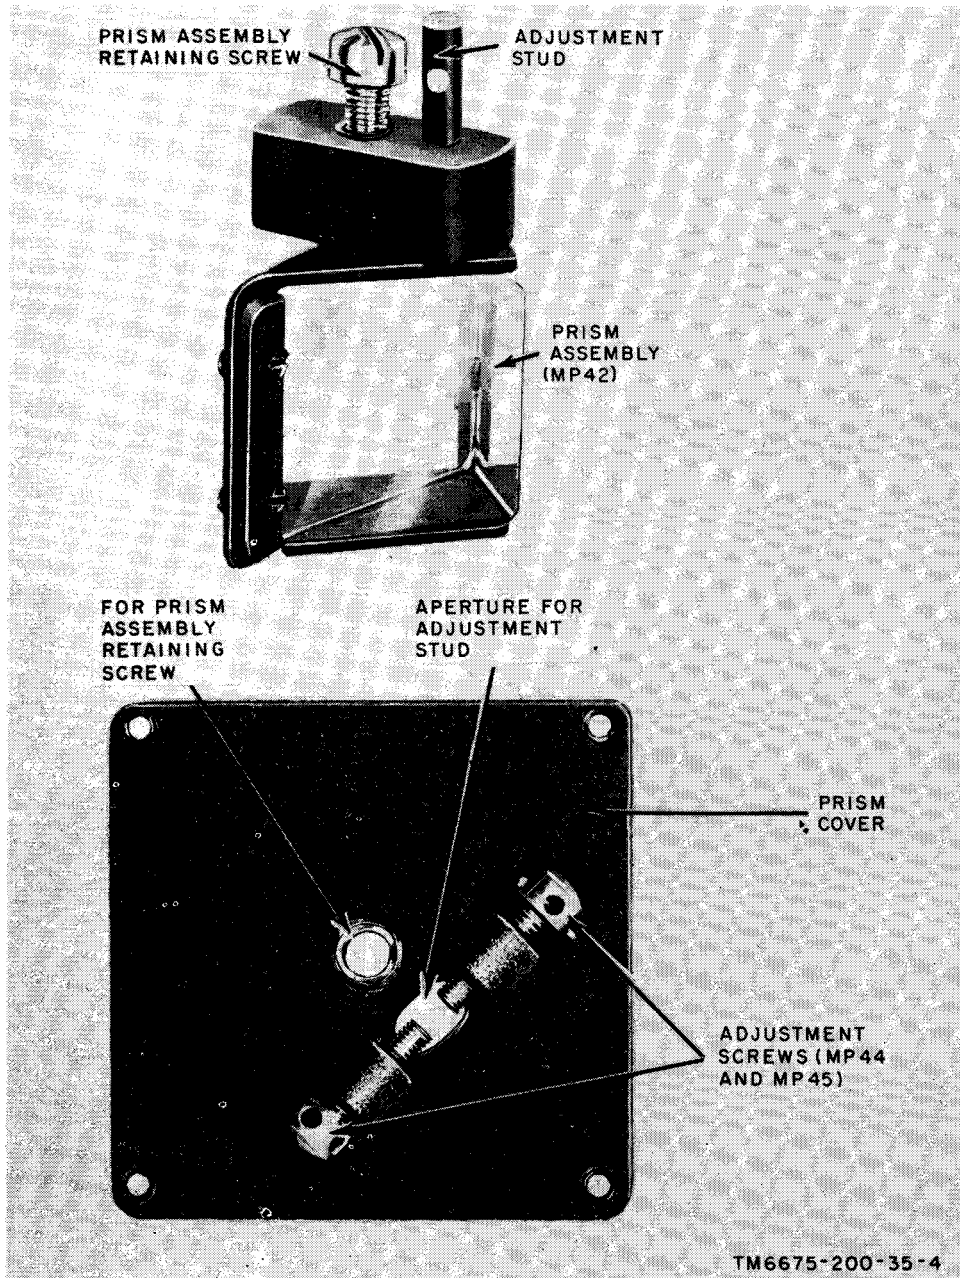

Figure 4. Prism assembly MP42 and cover.
- (2) Replace the top and bottom reticule screws and rectangular washers, but do not tighten. Remove the screw that was used as a handle.
- (3) Pivot the reticule 90° to aline the side screw holes and the cross hair lamp hole. The cross hair side of the reticule should face the open end of the eyepiece tube.
- (4) Replace, but do not tighten, the side reticule screws and rectangular washers.
- (5) Adjust and tighten the four reticule screws so that the reticule is centered in the eyepiece tube.
- (6) Replace the focusing eyepiece and focusing eyepiece cap (par. 11).
- (7) Adjust the reticule and cross hairs (par. 21).
13. Replacement of Prism Assembly (fig. 4)
- d. Remove the prism assembly retaining screw (fig. 4).